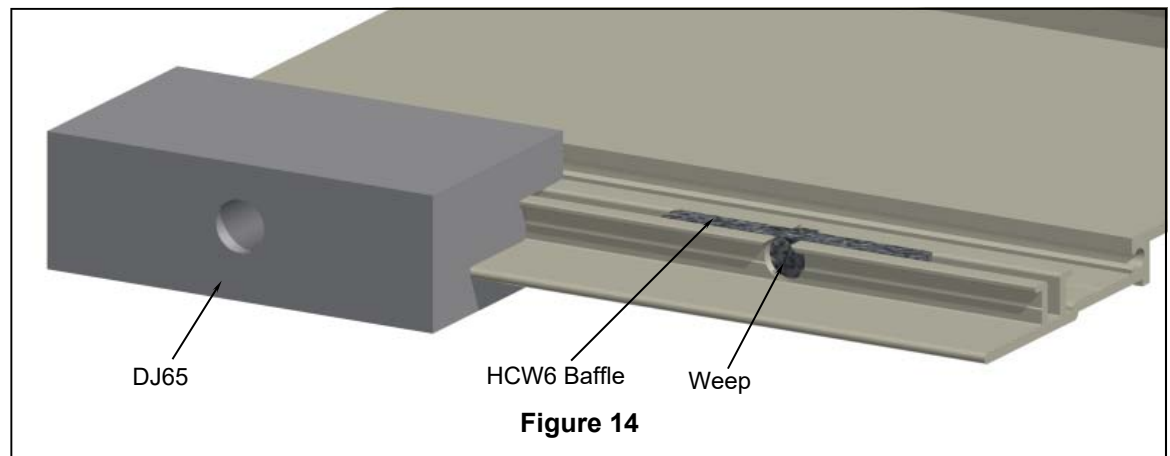

Figure 14
- Using drill jig DJ65 drill 5/16" diameter weep holes in the sub-sill 6" from the jambs and no more than 42" apart. See figure 14.
- Weep baffles are cut from part HCW6. One part HCW6 will produce 4 baffles when cut per figure 15. Locate them at the weep holes per figure 14.